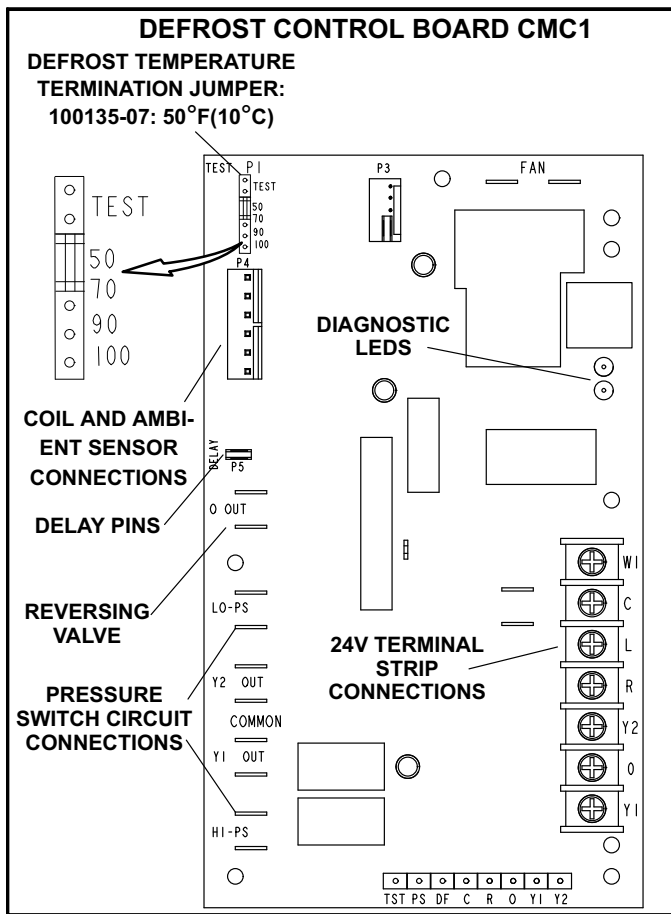

FIGURE 4
## Series 100135 (Figure 4)
**Note** - The defrost termination temperature can be adjusted to 50, 70, 90 or 100 °F. The jumper termination pin is factory-set at 50 °F (10 °C). If the temperature jumper is not installed, the default termination temperature is 90 °F (32 °C). See figure 4.